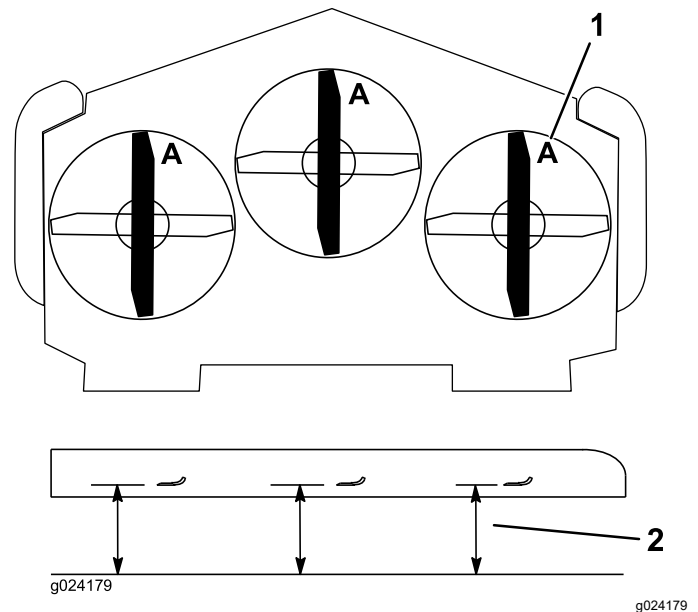

Figure 81
3. Rotate the blades until the ends face forward and backward (Figure 81).
4. Measure from a level surface to the cutting edge, position A, of the blades (Figure 81).